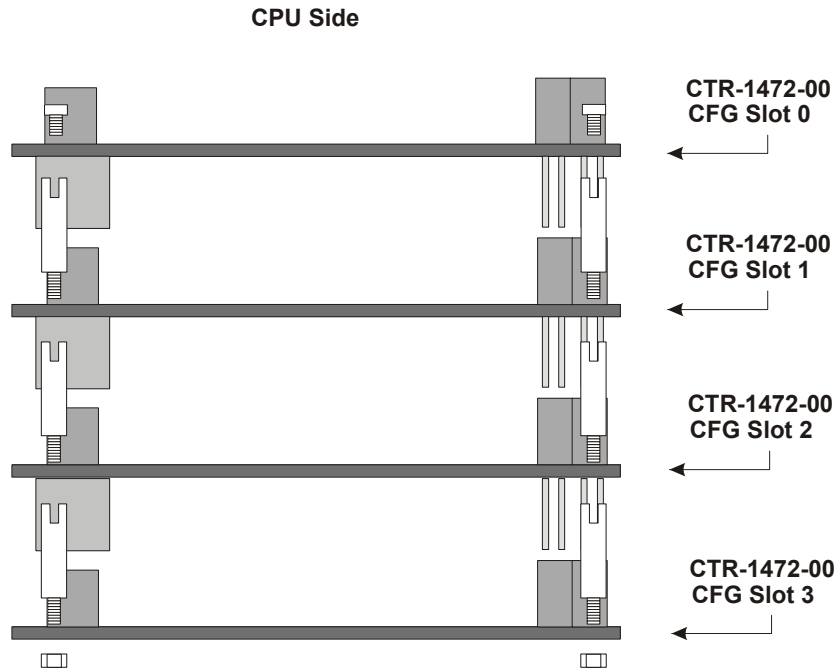

Figure 1. CTR-1472 Example Stack
Figure 1 shows an example of the CTR-1472 stack assembly where, Assuming that the CPU is installed on the top of the stack, it illustrates how to stack the boards to increase the BUS performance, considering that the clock wires related to each slot selection are optimized depending on the bus length.
- Assemble the four CTR-1472 in the stack as illustrate in Figure 1